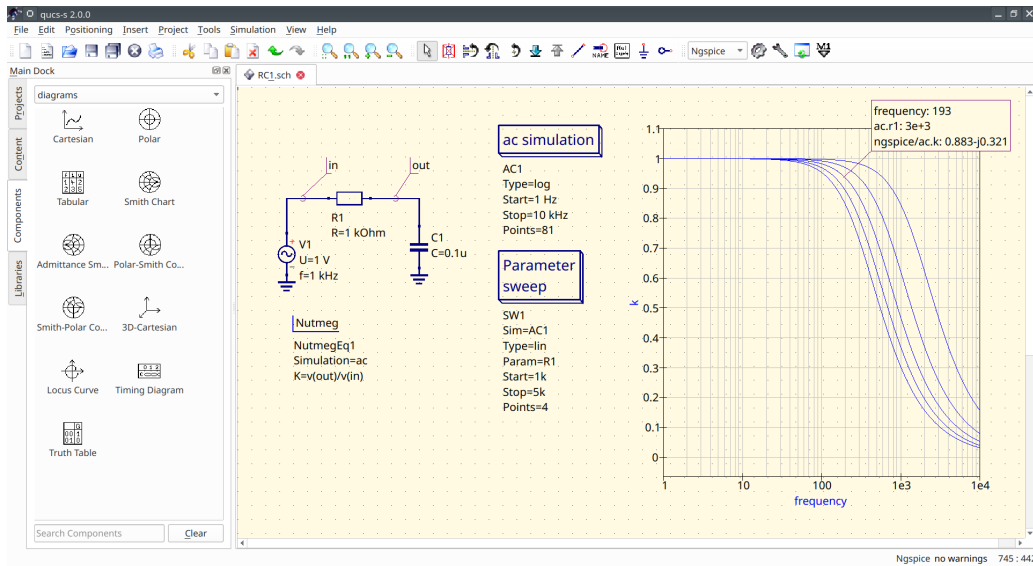

Figure 15: Magnitude response of the RC-circuit with the parameter sweep
- Step 3:** Run the simulation and place the diagrams as for usual simulation (Figure 15). You should see the family of the curves. You may place a marker on the diagram and